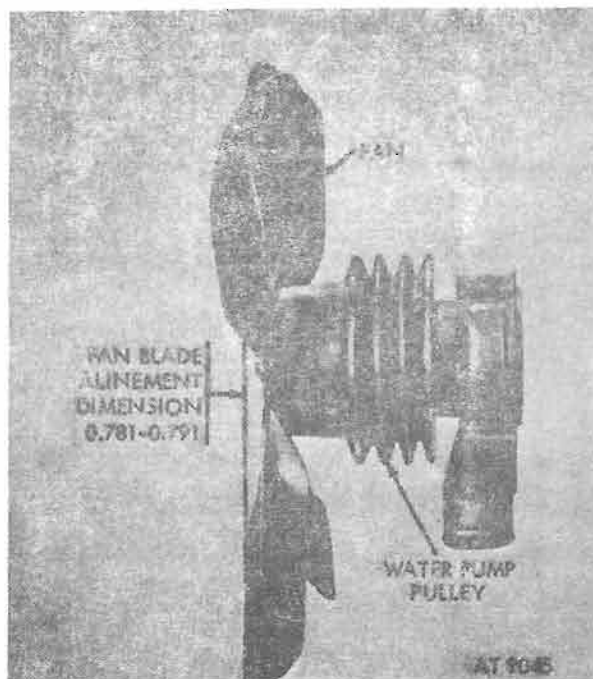

Figure 4-199. Fan blade—alignment dimension.
a. Fan Blade Assembly. Clean fan assembly in solvent and scrape off dirt accumulation. Examine all rivets and bolt holes. Check blades and center section for cracks or bends. Replace fan blade assembly if rivets are loose, bolt holes are elongated, or if center section is cracked or bent. Each individual blade, when installed on engine assembly, should be 0.781-to-0.791 inches from front face of blade to pulley mounting face (fig. 4-199).